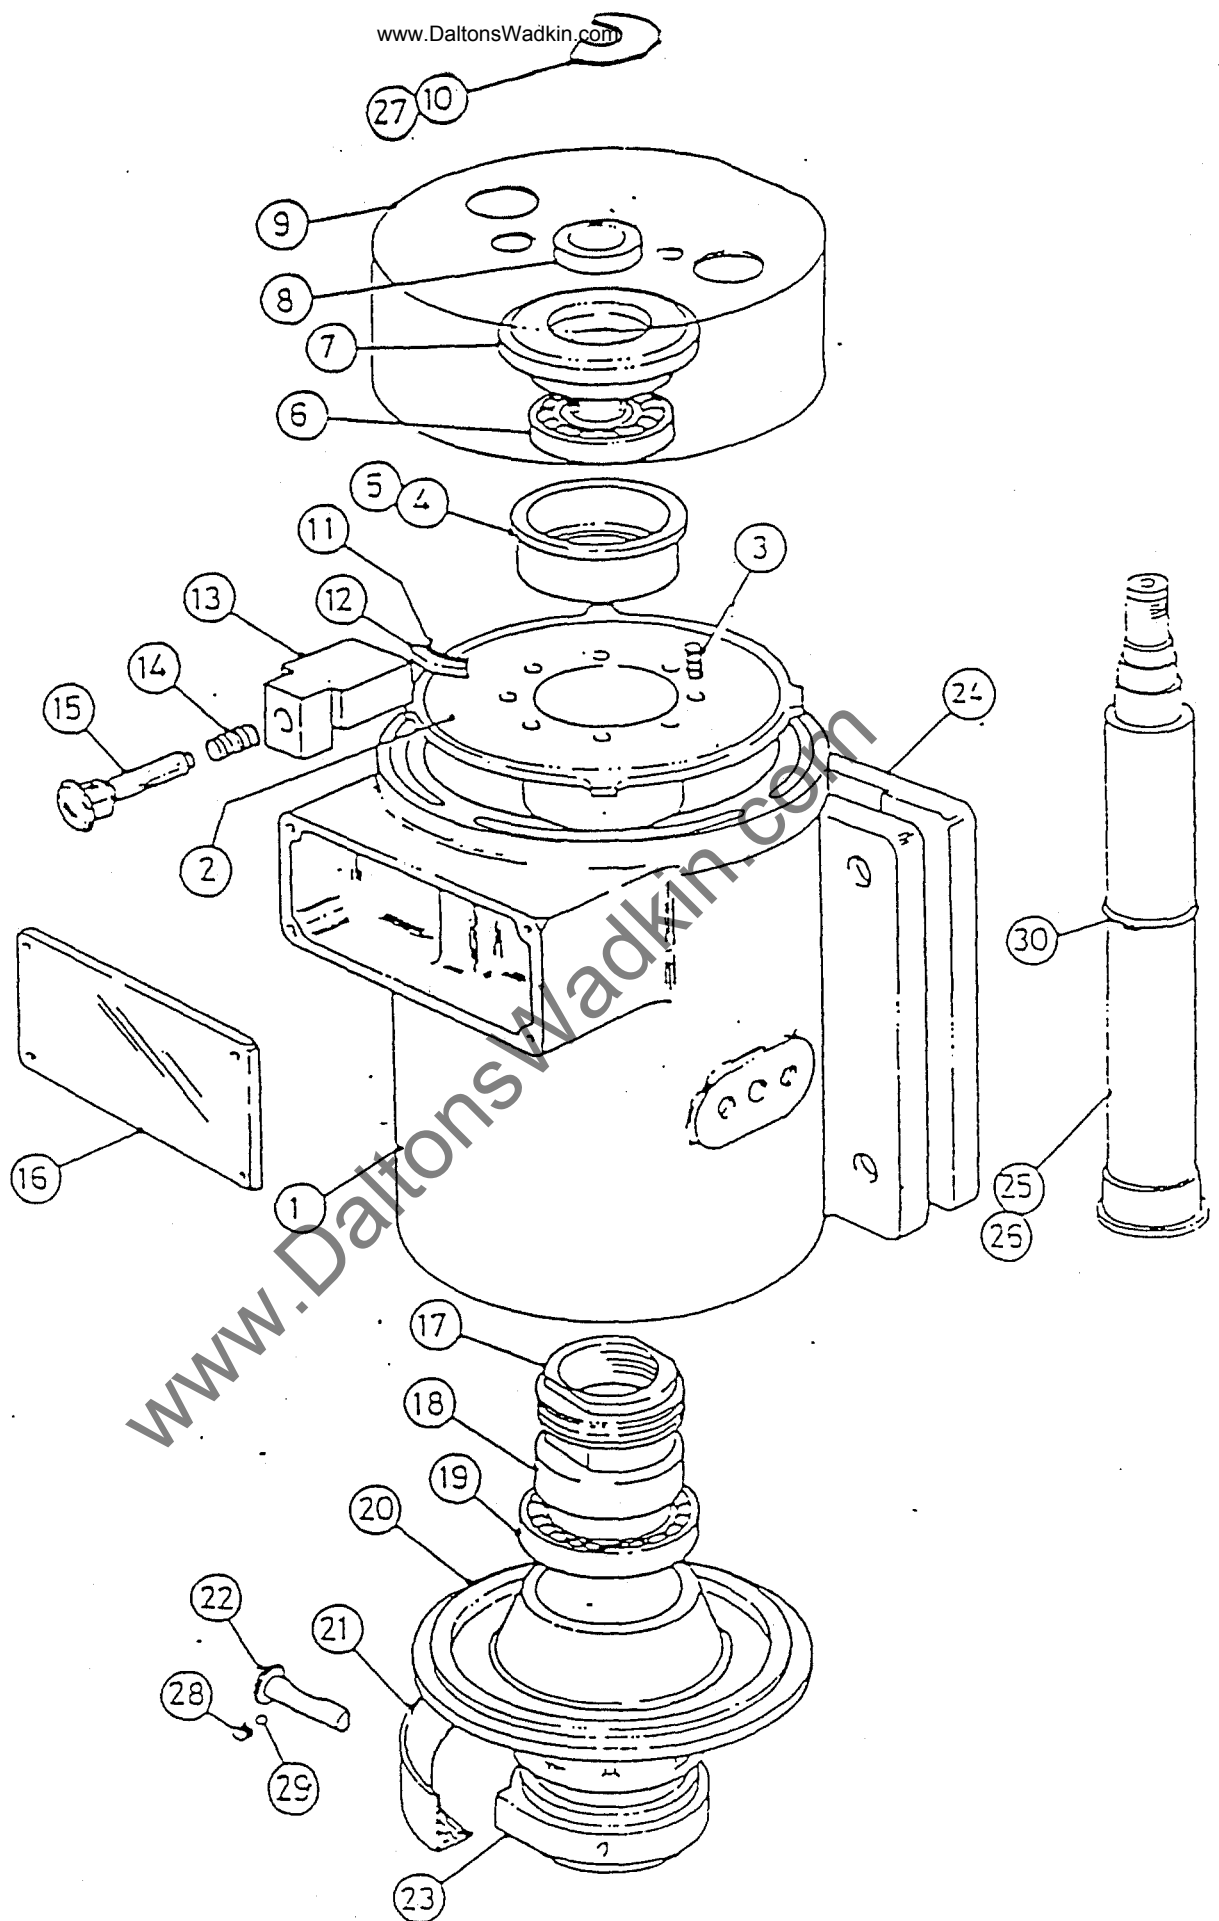

FIG. 23 HIGH FREQUENCY HEAD SERIES 'LC'
8.5 UX ROUTER HIGH FREQUENCY HEAD SERIES 'LC' PARTS LIST (See Fig.23)